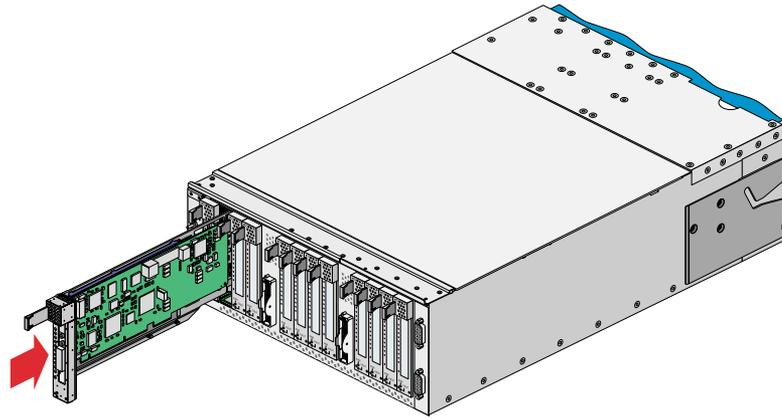

Figure 15 Installing a Card in a Slot
6. Insert the carrier that carries the card into the vacant slot, using the slot guide, as shown in Figure 15.